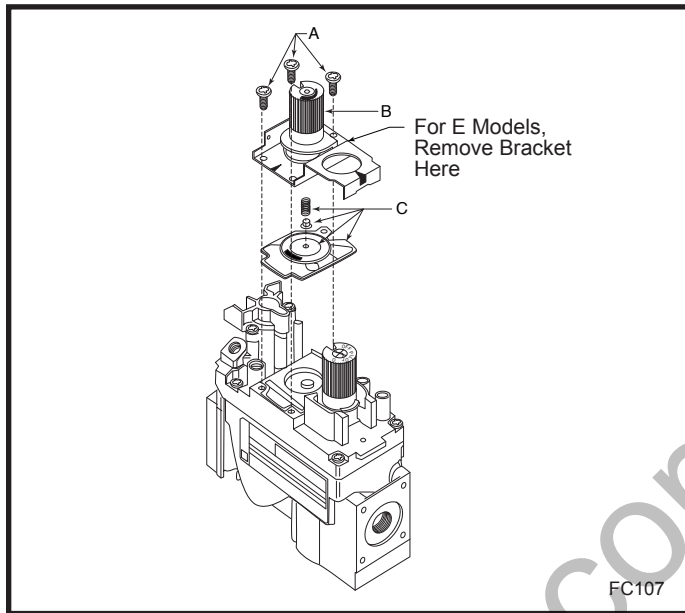

Fig. 58 Remove valve regulator.
12. Open the control panel and remove the cover by removing two (2) screws. While holding the valve cover plate with one hand, disconnect the wiring to the switch and the pilot indicator. **NOTE:** Do not allow the valve cover plate to hang from the pilot wires as this could damage the wires. Remove the extension knob(s). Replace the valve regulator.
13. Using the TORX T20 bit remove and discard the three (3) pressure regulator mounting screws (A), pressure regulator tower (B) and the spring and diaphragm assembly (C). (Fig. 58)